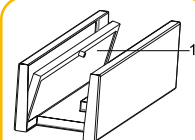

Fig. 11
- ▶ Pull back the aluminium metal filter via the holder on it. (Fig. 11).
- ▶ Remove the active carbon filter by pulling it towards the direction of the arrow (Fig. 11).